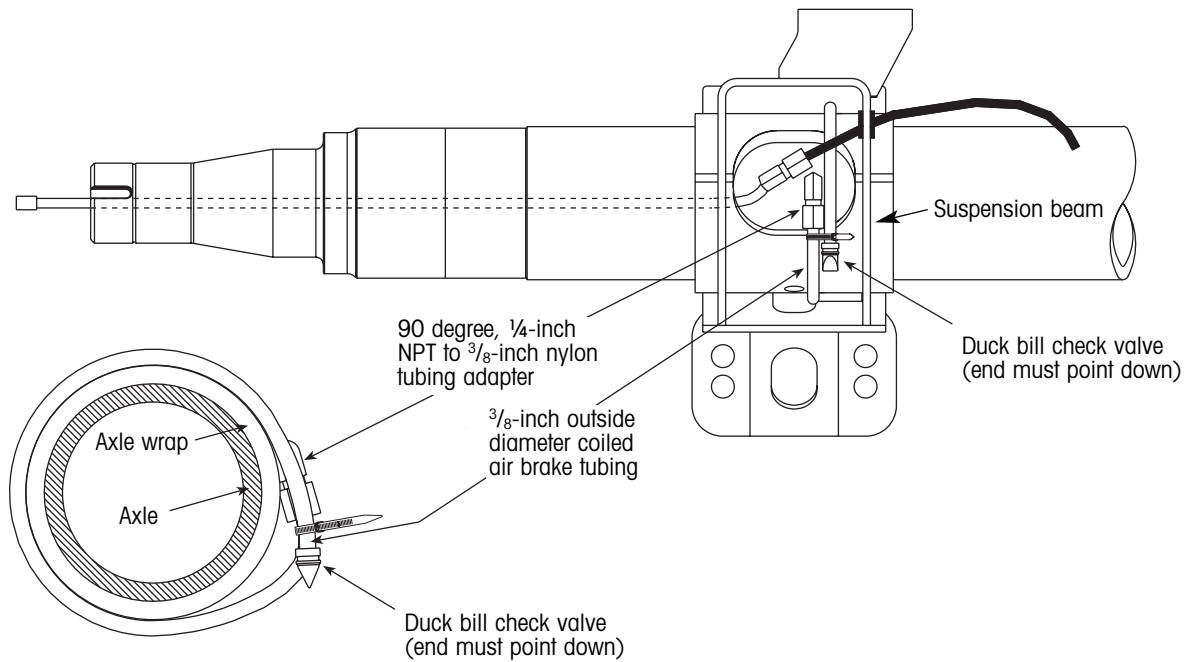

Figure 19. Typical axle vent installation
1. Install a 90 degree, 1/4-inch NPT male to 3/8-inch nylon tubing adapter in the remaining 1/4-inch threaded hole in the axle tube (figure 19).
2. Loop the 3/8-inch outside diameter coiled air brake tubing around the axle but inside the suspension beam. Attach the duck bill check valve to the tubing making sure the end points down to prevent contamination (figure 19).